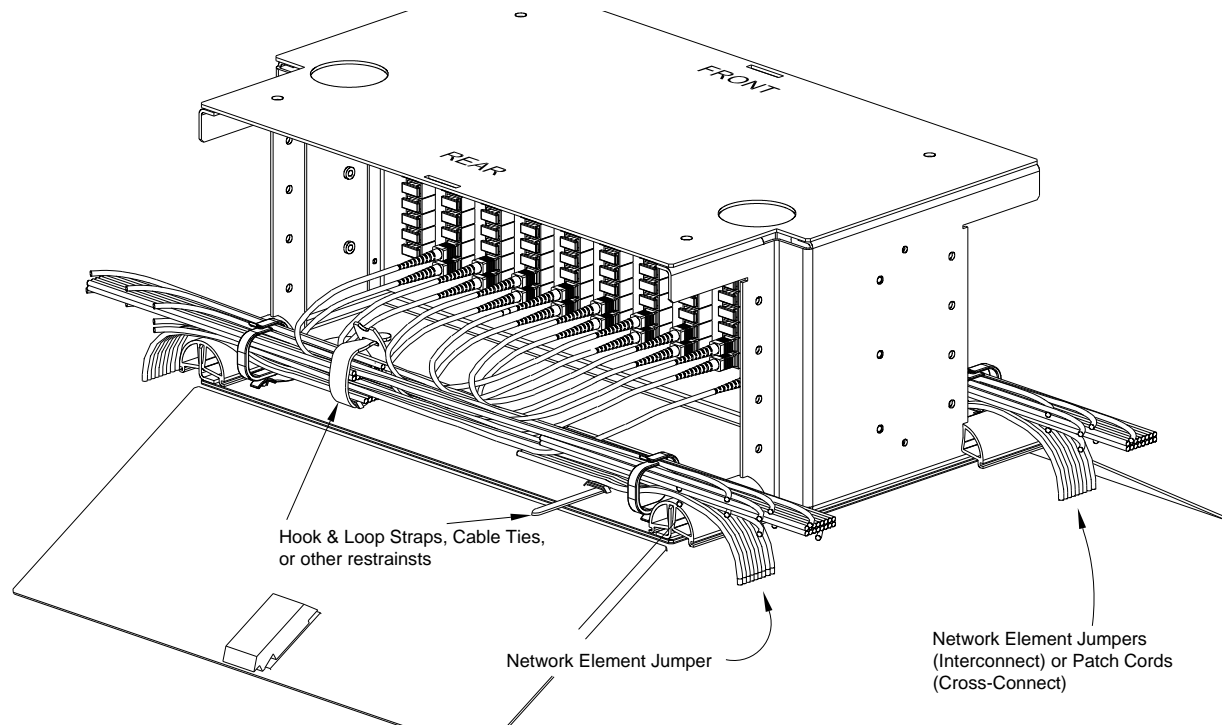

Figure 47 - Installing Interconnects or Cross-Connects in an LCX Fiber Patch Panel
1. Route pigtails, jumpers, or patch cords through a plastic ring located at the panel entrance. See Figure 47.